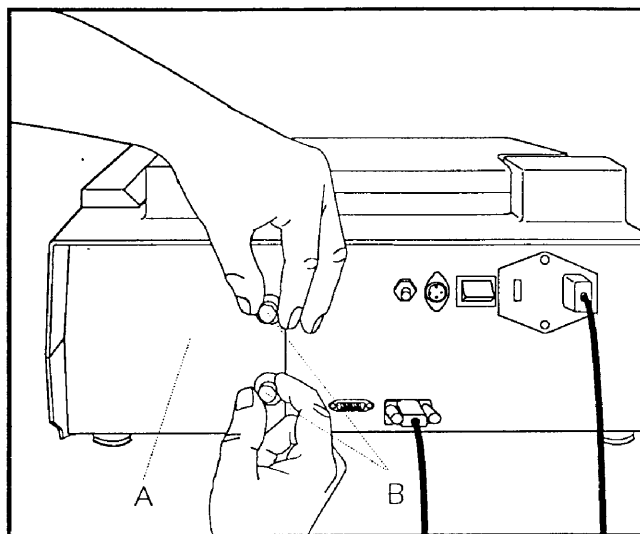

Figure 7-1. Opening the Battery Compartment.
3. Open the battery compartment by loosening the two captive thumbscrews on the back of the cardiograph as shown in Figure 7-1 (the figure shows the M1700A).